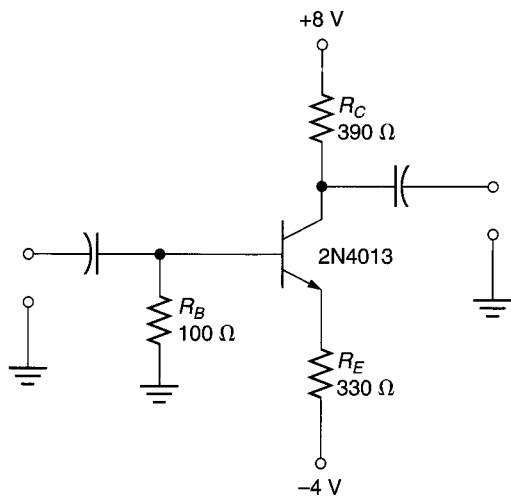

FIGURE 7.45
50. The spec sheet for the transistor in Figure 7.45 is located in Appendix A. Determine the values of  $I_{CQ}$ ,  $V_{CEQ}$ ,  $I_B$ ,  $V_B$ ,  $I_{C(sat)}$ , and  $V_{CE(off)}$ .